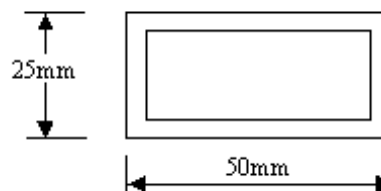

Figure 2b
- (b) Find crippling stress of rectangular tubes shown in figure 2b using Nedham's method, when formed from aluminium. Uniform thickness, $t = 1.5\text{mm}$. [6+10]